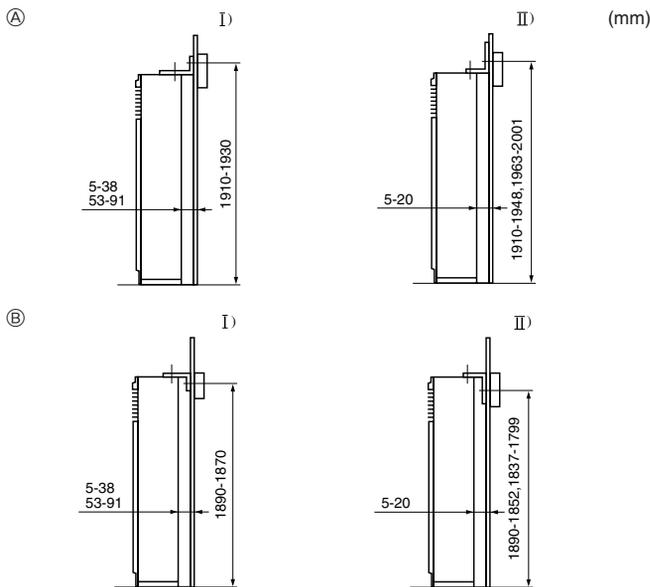

Fig. 3-3
- ① Tip-over prevention bracket
The tip-over prevention bracket ① is set on the top surface of the unit. Remove the tapping screws ②, and then reinstall the bracket, as shown in the illustration. For the proper installation distances, see Fig. 3-3.
3.3. Mounting the tip-over prevention bracket (Fig. 3-3)